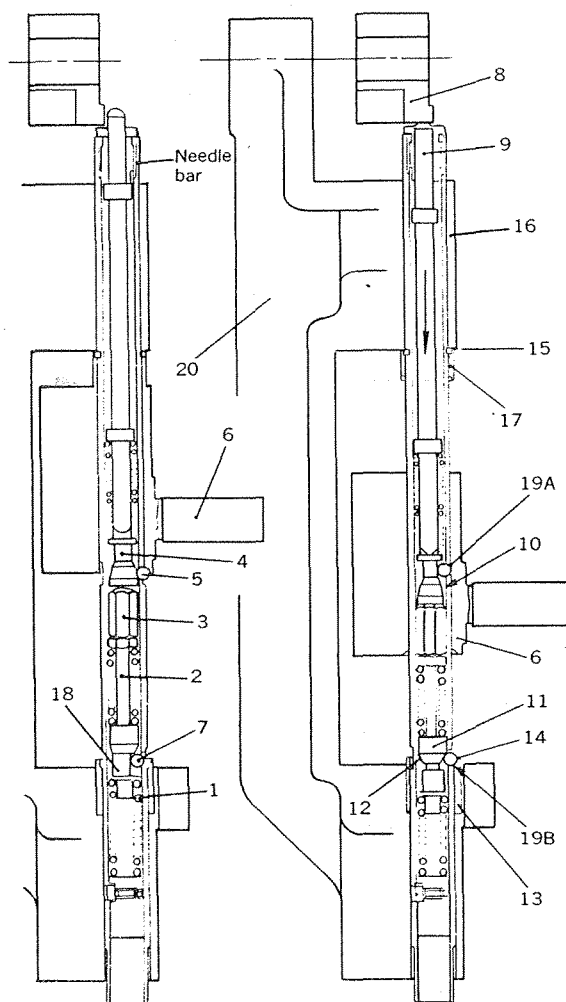

FIG. 40A
The mechanism disposed within the needle bar is detailed on Fig. 40A which shows a needle bar in the operational state, while Fig. 40B shows a needle bar in stopped position. The force of spring (1) pushes plunger (2) and adjusting nut (3) against cone (4) which in turn forces three steel balls (5) outwardly beyond the diameter of the needle bar and against the countersink at the bottom end of the needle bar connecting stud (6). At the same time triangular prism (18) is allowing three steel balls (7) to recede below the diameter of the needle bar. Consequently, the movement of the needle bar connecting stud will cause the needle bar to reciprocate.